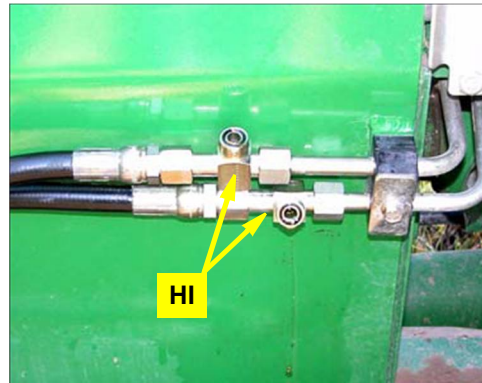

Figure 4b: Run tees installed in steering lines (00 and 20 series)
- b. Install the run tees **HI** between the steel and rubber sections of the steering lines (Figure 4b).